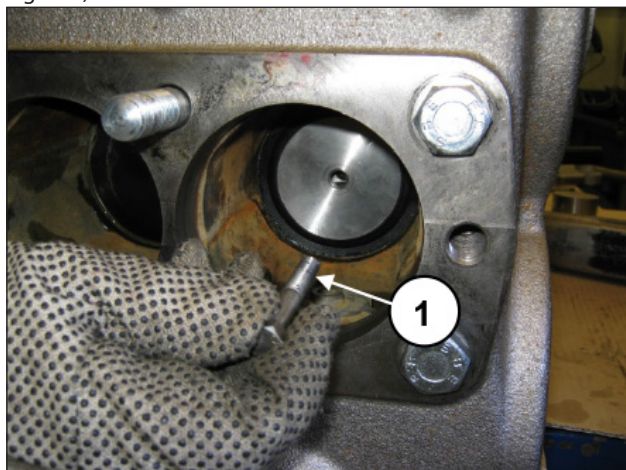

Fig. 126
Unscrew the M8 screws that secure the piston unit and remove it together with the seal fastening bush (pos. ①, Fig. 126).